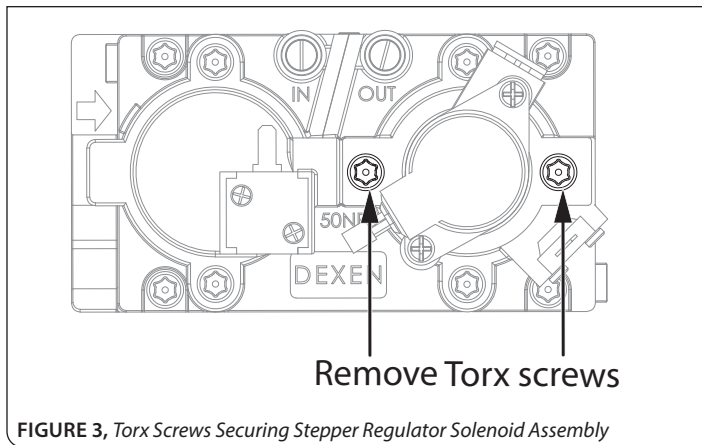
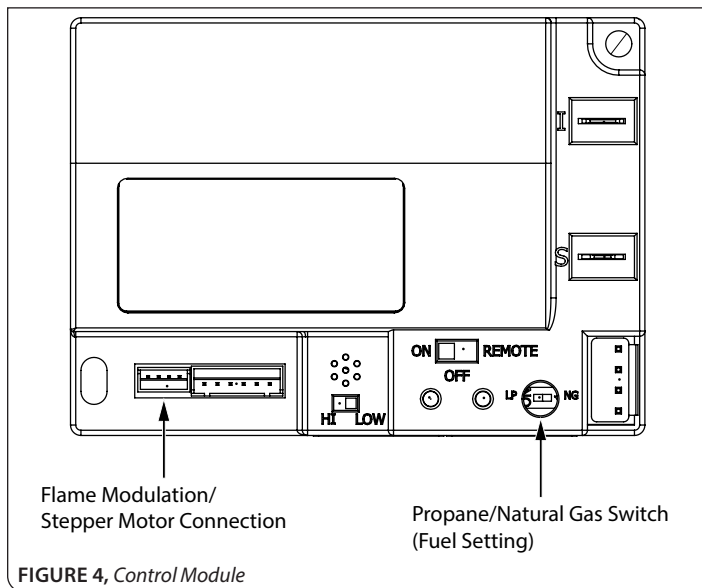

FIGURE 3, Torx Screws Securing Stepper Regulator Solenoid Assembly
FIGURE 4, Control Module
- Step 1: With a T20 Torx (star-bit) driver, remove (2) screws from the regulator solenoid assembly. See **FIGURE 3**.
- Step 5: Secure the assembly to the gas valve with (2) screws previously removed. **DO NOT OVERTIGHTEN!**
- Step 6: Connect the new stepper regulator solenoid assembly gang plug into the control module as shown in **FIGURE 4**.
- Step 7: Slide the fuel type selector to LP. See **FIGURE 4**.